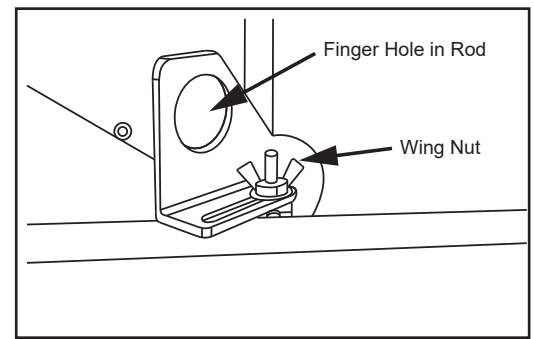

Figure 11.2
1. Loosen the wing nut (**Figure 11.2**).